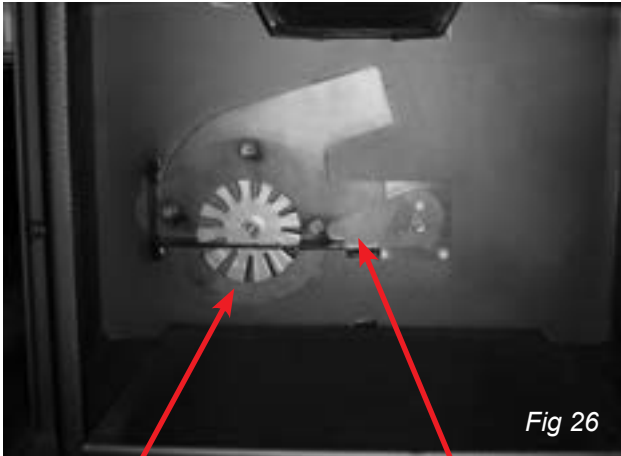
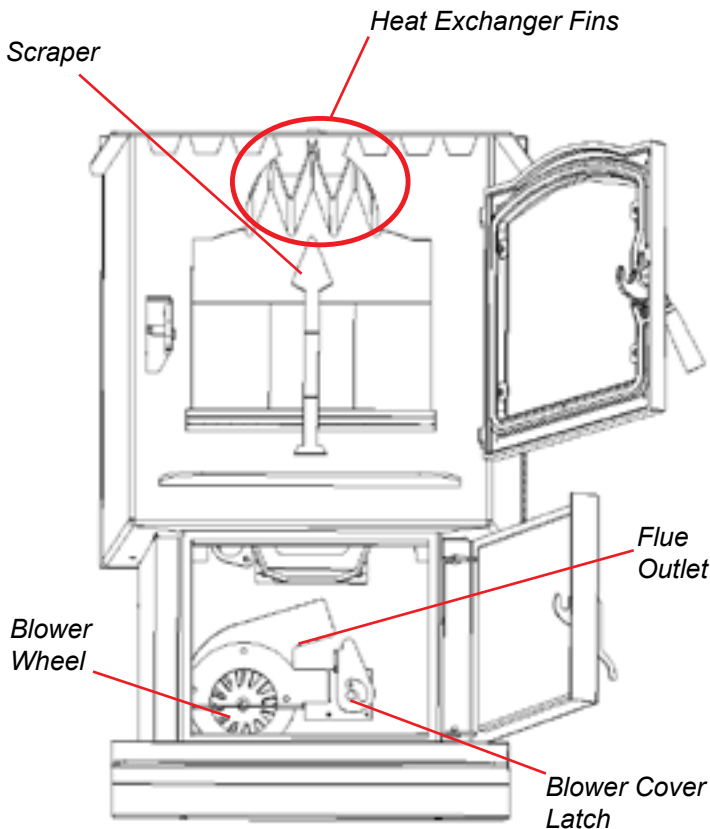

Fig 26
Fig 27
2. Clean heat exchanger with scraper as shown in fig 27.
- Remove combustion blower cover by turning the blower cover latch vertical, see Fig.26. Sliding the cover out of the slot on the left. This will expose the combustion blower wheel and flue outlet, Fig.27.
- Use a brush to clean the flue, being careful not to damage the ESP probe, see Fig. 30. The flue goes straight through into the vent pipe (Fig.27) therefore, the vent pipe can also be cleaned, to some extent, through the flue outlet.